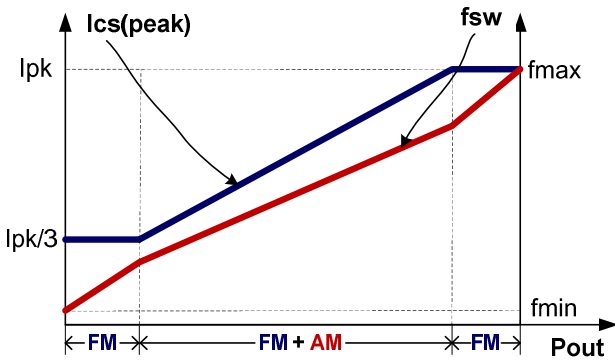

Fig.4
To meet the tight requirement of averaged system efficiency and no load power consumption, a hybrid of frequency modulation (FM) and amplitude modulation (AM) is adopted in DP2525JB which is shown in the Fig 4.